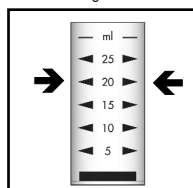

Figure 2
2. Fill the sample cup to the 20 mL mark with the sample to be tested (fig 2).